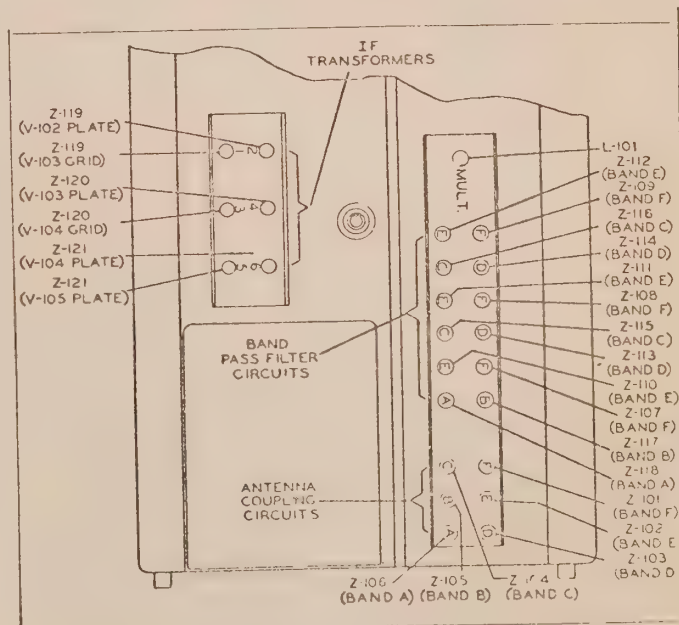
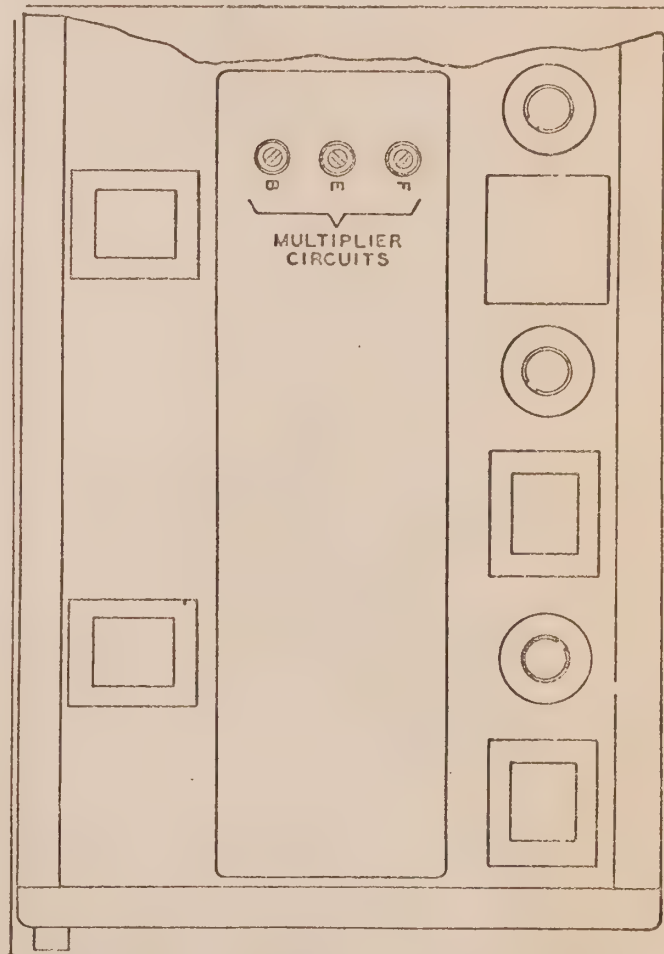

Figure 5-6. Tuned Circuit Locating Diagram, IF and Band Pass Adjustments
Figure 5-7. Tuned Circuit Locating Diagram,
(12) Contact the terminal on Z-119, to which the coaxial cable is attached, with the probe and adjust i-f slug numbered "1" on the i-f platform for maximum output. Through the hole in the shield numbered "2" contact the transformer terminal with the probe and adjust i-f slugs numbered "2" on the i-f platform (see figures 5-6, 6-3 and 6-4) for maximum output meter readings. Repeat procedure for transformer terminals 2-3-4 and slugs 3-4.
c. MULTIPLIER ALIGNMENT.—The multiplier is aligned by means of the slug adjustment of L-101 and the adjustment of C-141, C-142, and C-143. The slug adjustment for L-101 is engraved MULT. and can be located by referring to figures 5-6, 6-3, and 6-4. Variable trimmer capacitors C-141, C-142 and C-143 are located on the right side of the receiver and the slotted shaft screw-driver adjustments are accessible through the holes in the shield engraved F, E and B. Refer to figures 5-7, and 6-6. To align the multiplier, proceed as follows:
(1) Connect the output lead of the signal generator to the antenna terminal of the receiver and